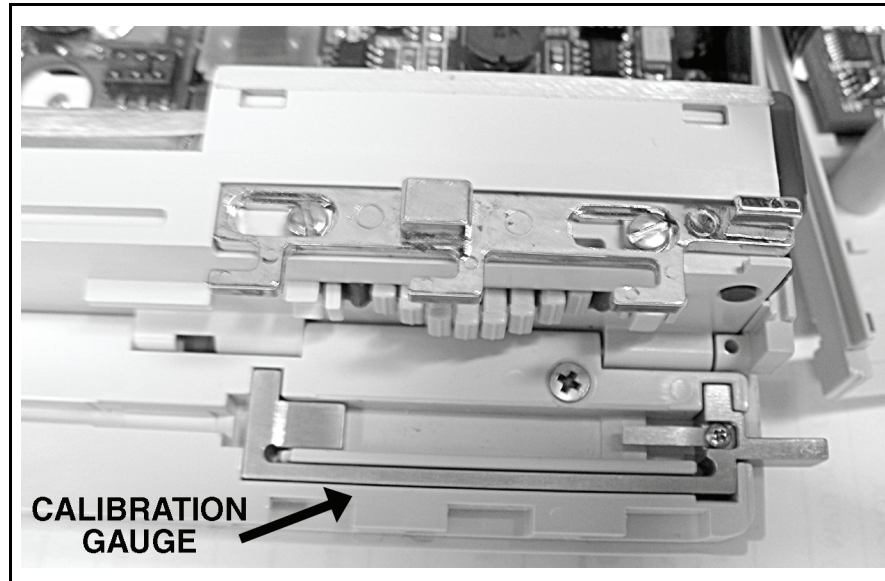

Figure 7-3. Calibration Gauge
1. Refer to Figure 7-3. Open the Tubing Door, insert the **Calibration Gauge** (p/n AS3AL4002) into the Tubing Channel, then close the Tubing Door.